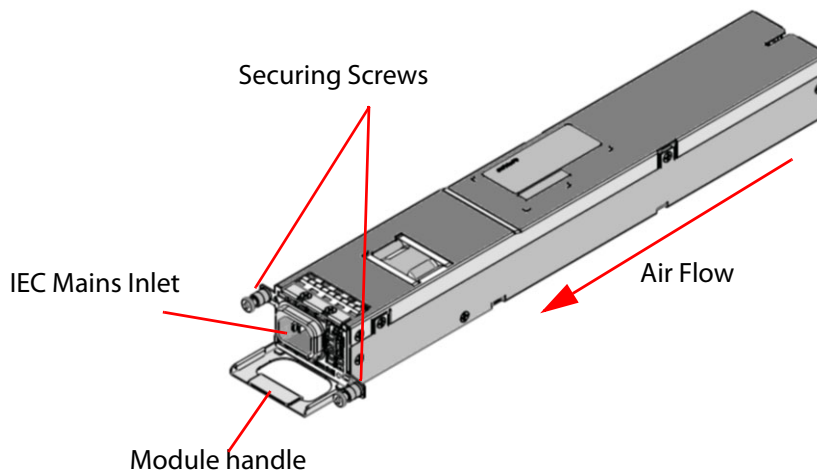

Fig. 11-2: MV-825-RTR PSU Module (Grass Valley stock code FGAMV 820-PSU)
- 3 Carefully pull the PSU module out of the MV-825-RTR chassis, using the PSU handle, see Figure 11-2.